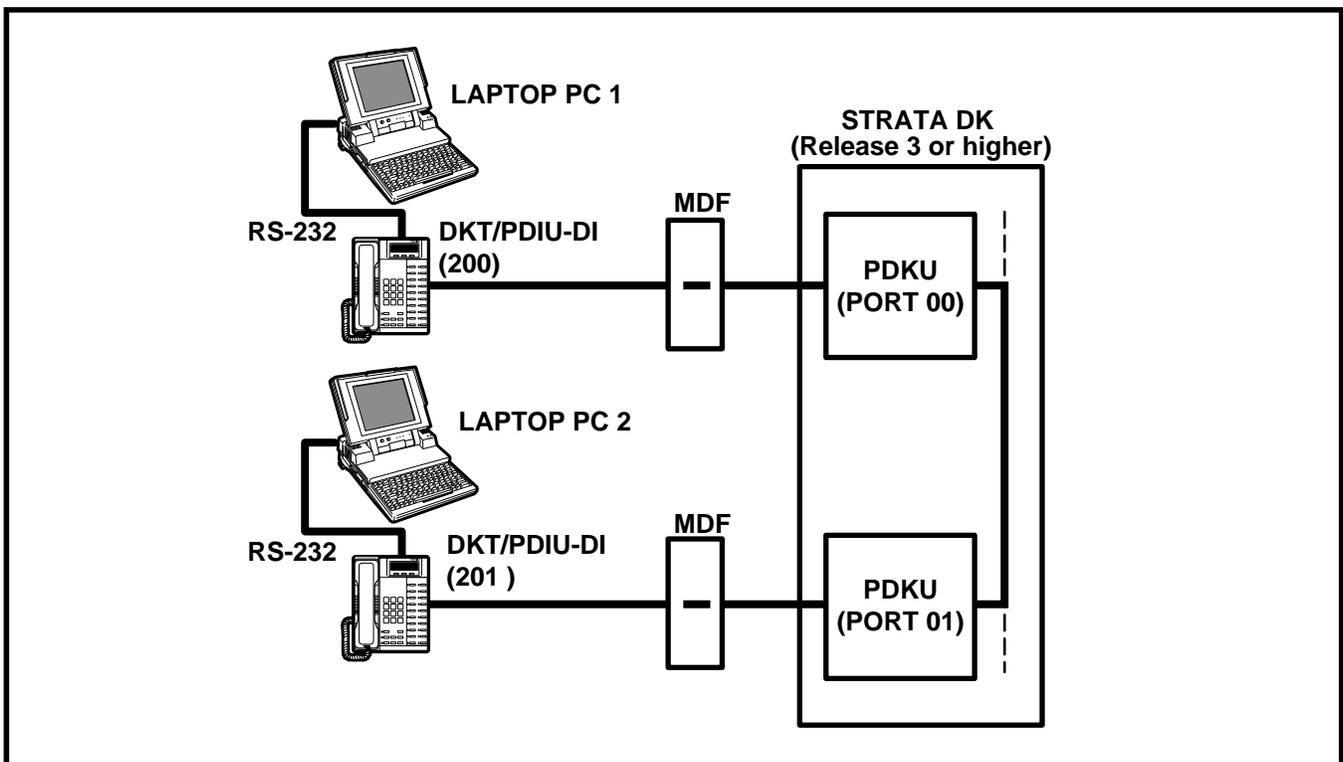

FIGURE 8-38
12.82 PC-to-PC Test Call Using AT Commands (see Figure 8-38)